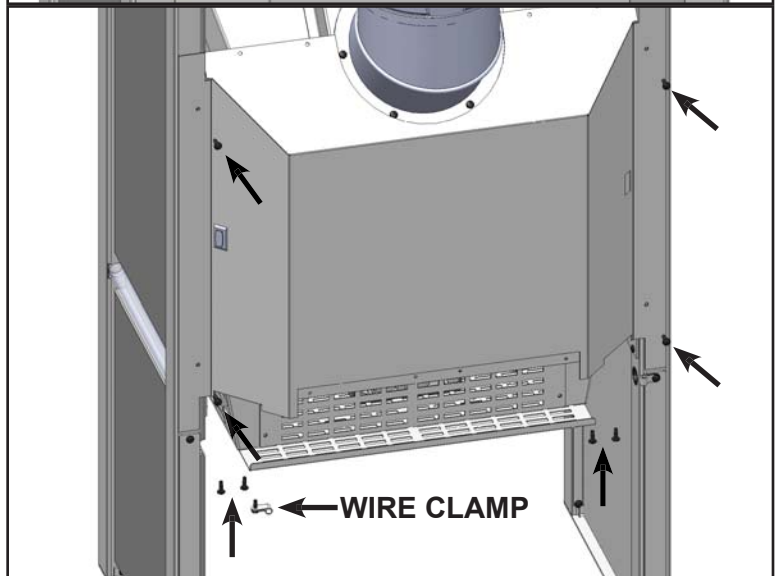

Fig.23
4. Unscrew outer rear shield from appliance (9 screws). Be sure to undo wire clamp before attempting to remove the shield. (Fig.23)